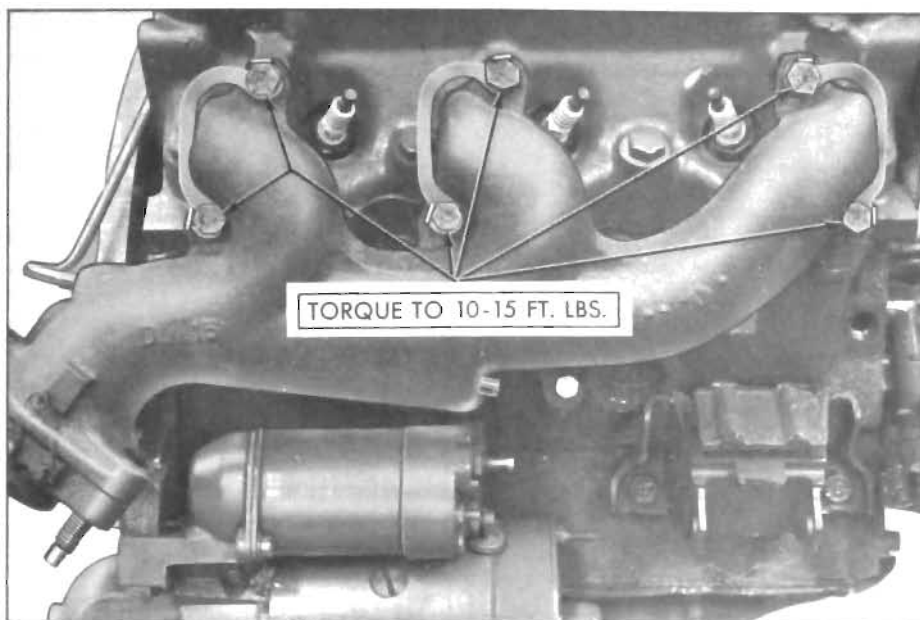

Figure 2-12—Exhaust Manifold Installation
3. Assemble exhaust manifold to cylinder head with bolts and locking plates as shown in Figure 2-12. Torque bolts to 10-15 ft. lbs.